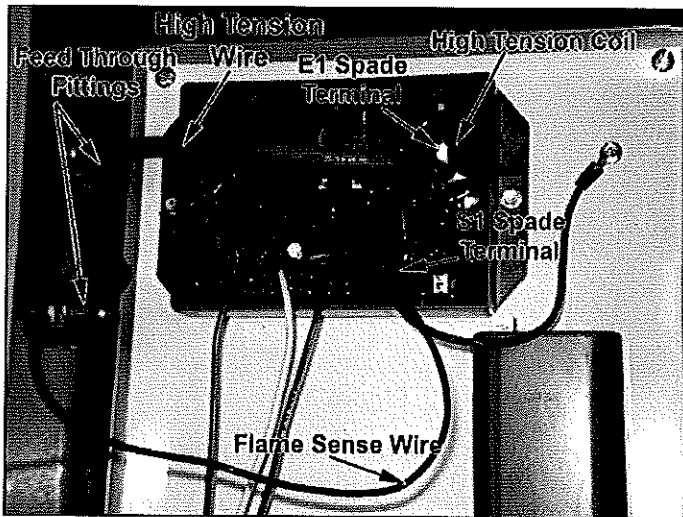

Figure 32
- Insert wires into proper Feed Through and pull into Ignition Board Box. The orange Ignition Wire will be placed onto the E1 spade on top of the High Tension Coil and the black Sense Wire will be placed onto the spade terminal S1 of Ignition Board. See Figure 32.